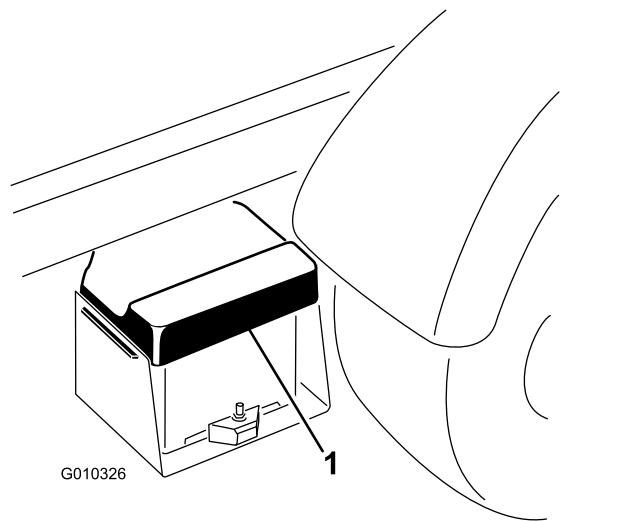

Figure 40
1. Squeeze the battery cover to release the tabs from the battery base and remove the battery cover from the battery base (Figure 40).